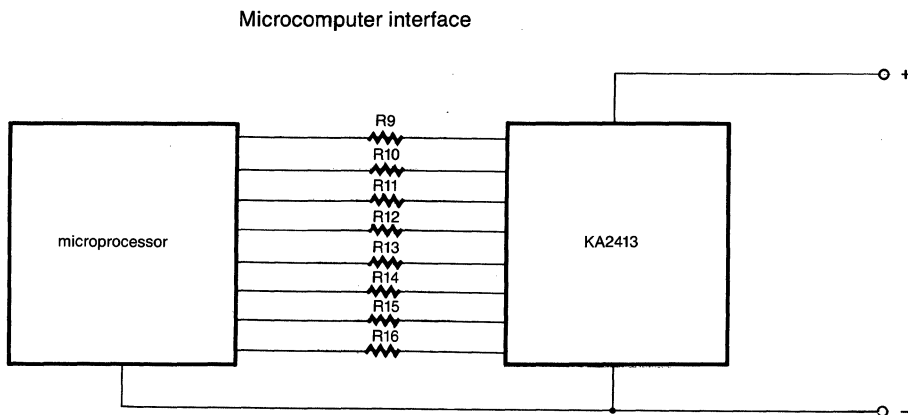

Fig. 5
KA2413 can also be controlled by a microprocessor (see Fig 5). The negative branch of the microprocessor voltage supply is connected to pin 7 of KA2413 and the inputs (8) are connected with resistors.